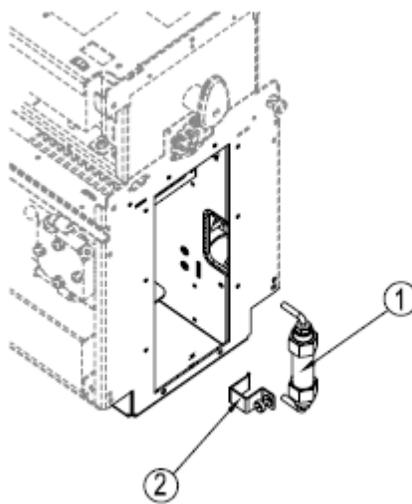

Figure 7-5: Filter Assembly Overview
2. Position the filter clamp in the chassis and tighten the filter clamp screw by hand (see Figure 7-5).